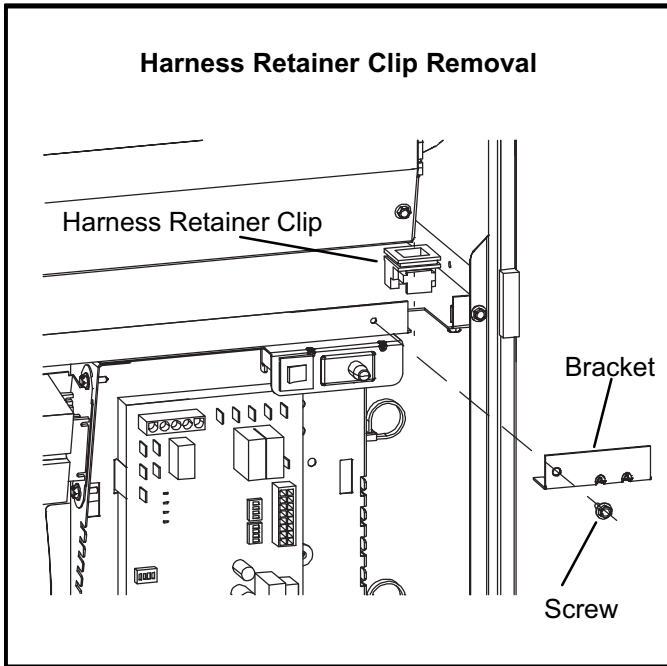

FIGURE 1
- 3 - Remove the harness retainer clip from the furnace. See figure 1.